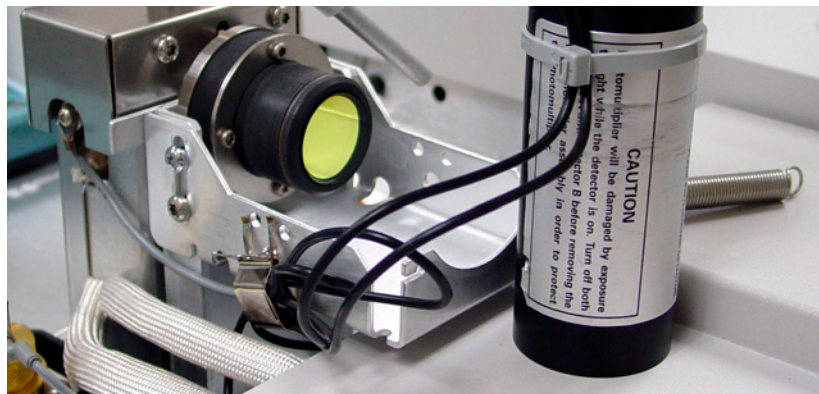

Figure 27 Protecting the PMT
- 3 To prevent light from damaging the PMT, immediately cap the end or place it face down (Figure 27).